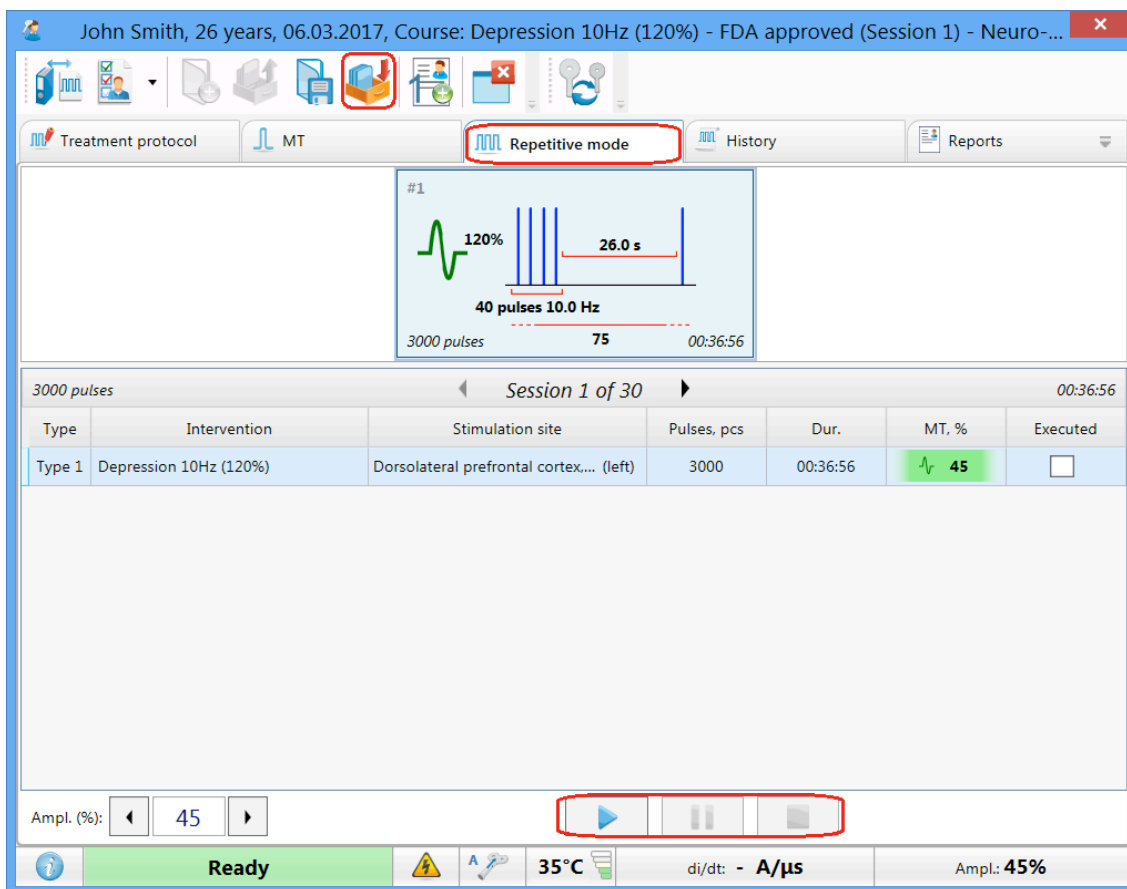
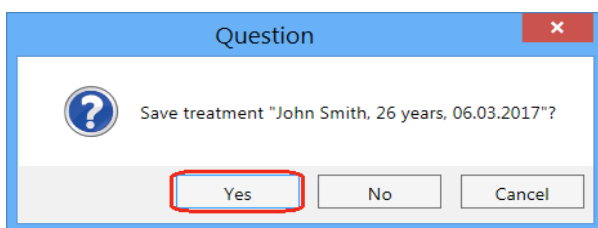

Fig. 37. Repetitive mode tab.
Fig. 41. Treatment saving.
27. Go to the “Repetitive mode” tab (Fig. 37).
28. To start the repetitive stimulation session use button on coil, or “Pulse” button on magnetic stimulator (3 in Fig. 33) or “Start stimulation”  button in the program (Fig. 37). The treatment parameters are preloaded into the device. Stimulation will be generated at 120% motor threshold with a pulse sequence of 10 Hz for 4 seconds, followed by a 26 second quiet period. Treatment will last for a total of about 37 minutes. This is a total of 3.000 pulses.
36. During the treatment, stay in the room with the patient and periodically check to ensure the coil and the patient are in the same position. The remaining time up to session completion is displayed in the bottom left area of the screen. Session can be paused by pressing  button. Stimulation can be stopped with “Stop”  button (Fig. 37). The same action can be performed if you just press button on the coil.
40. To end (close) the treatment, use  toolbar button (Fig. 37). Press “Yes” button in the appeared dialog box (Fig. 41).